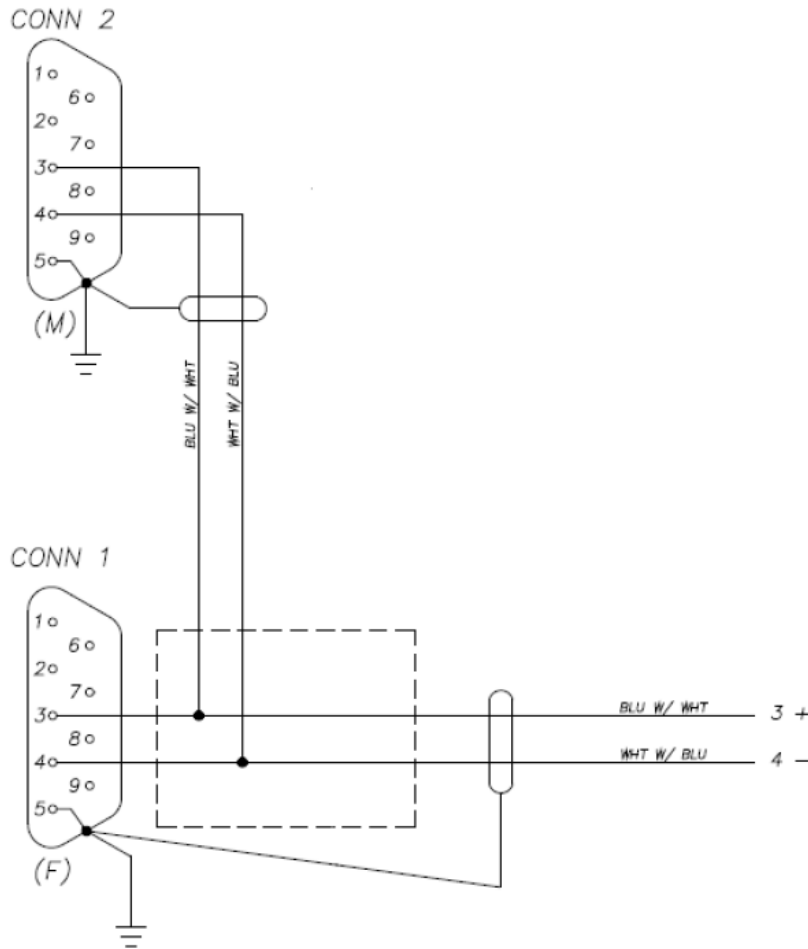

Figure 22. Check Cabling.
- Check cabling between the computer running the software and the oven (Figure 22)